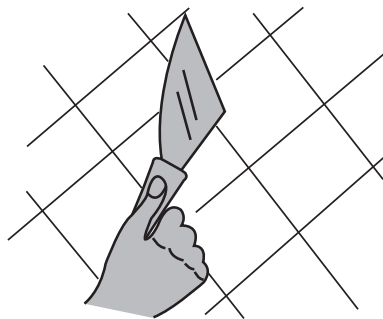

Figure 5
- For multi-layered, painted-over, or water-resistant wallpapers, it is recommended to score the surface in a grid pattern using the scraper (not supplied) before steaming. (See Fig. 5)